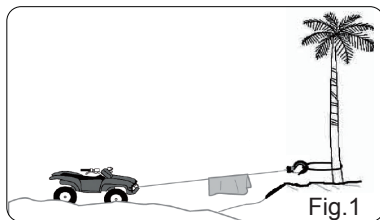

Fig.1
14. Place towel or sandbag over wire while winch is in use. Fig.1